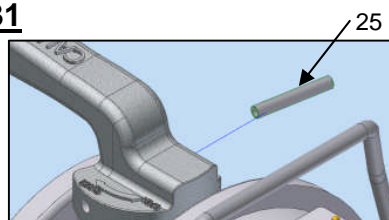
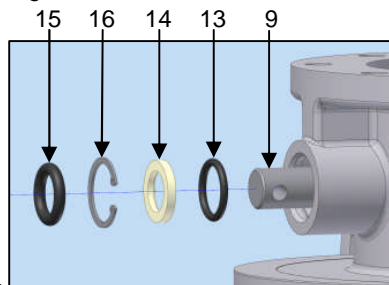

Fig. 13
Fig. 14
9. With Lever still open, use a hammer and punch to remove roll pin (25) from lever (3). Slide lever off the end of the shaft. (See Fig. 13)
10. Remove dust seal (15) with picking tool. Discard dust seal. Remove retaining ring (16) with retaining ring pliers. (See Fig. 14)
11. Slide shaft out to expose spacer (14) and O-Ring (13). Remove spacer and O-Ring discard O-Ring. Thoroughly clean the bore. If Replacing Bearings (11&12) go to step 13.
12. Lubricate New O-Ring (13) with Parker Super Lube (or equivalent) and assemble in reverse order. Lubricate new dust seal (15) before installation. Replace Lever (3) and using a hammer & punch install New Roll Pin (25). (See Fig. 13) Return to step 8.
35. Using a hammer and punch, remove roll pin (25) from lever (3). Slide lever off the end of the shaft. (See Fig. 13)
36. Remove dust seal (15) with picking tool. Discard dust seal. Lubricate New Dust Seal (15) with Parker Super Lube (or equivalent) before replacing. (See Fig. 14)
37. Replace New Lever (3) and using a hammer & punch install New Roll Pin (25). (See Fig. 13)
41. See Fig. 14: Lubricate O-Ring (13) with Parker Super Lube (or equivalent) and assemble in reverse order, use New Retaining Ring (16) before assembling Dust Seal (15). Lubricate dust seal before installation. Return to step 8.